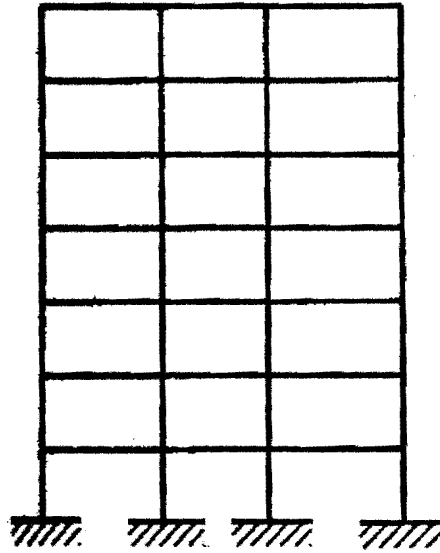
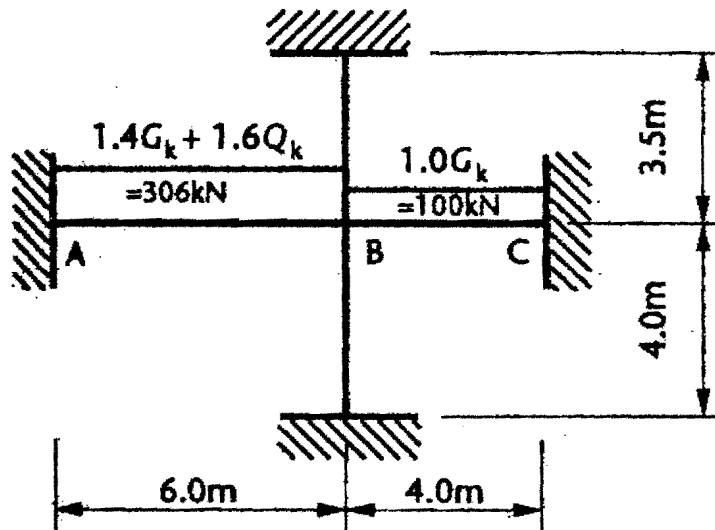

Figure 2.1
Figure 2.2
- a) In analyses of braced frames, a building frame shown in Figure 2.1 can be simplified into a series of substitute frames for analysis. Draw and discuss each of the substitute frames. (12 marks)
- b) The substitute frame below is taken from the building frame in Figure 2.1. The loading to cause maximum column moments is shown in Figure 2.2 for $G_k = 25$ kN/m and $Q_k = 10$ kN/m. Beams and columns size are 300×600 and 300×350 respectively.